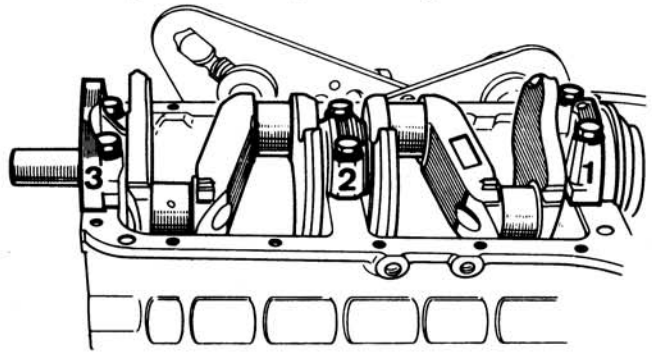

FIGURE 32. IDENTIFYING MAIN BEARING CAPS
5. Identify each main bearing cap before removing from engine. Inspect the main bearings for any indication of flaking out, scoring or actual wear. If any of these conditions exist, the bearings must be replaced (Figure 32).